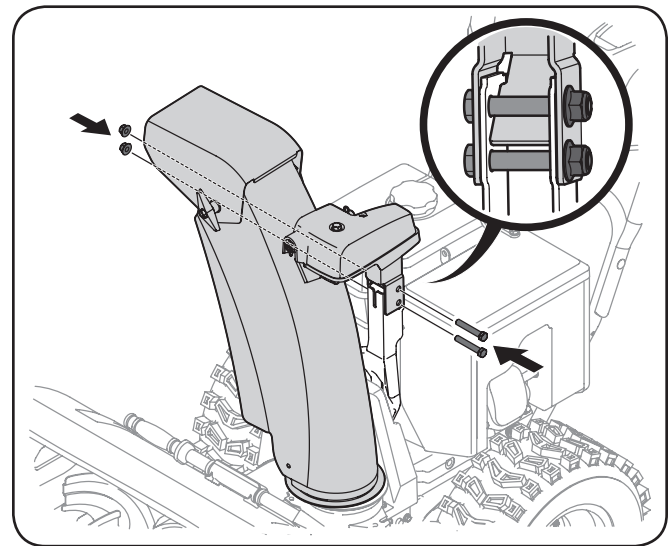

Figure 3-16
3. Secure chute control head to chute support bracket with the lock nuts and hex screws removed earlier. See Figure 3-16.